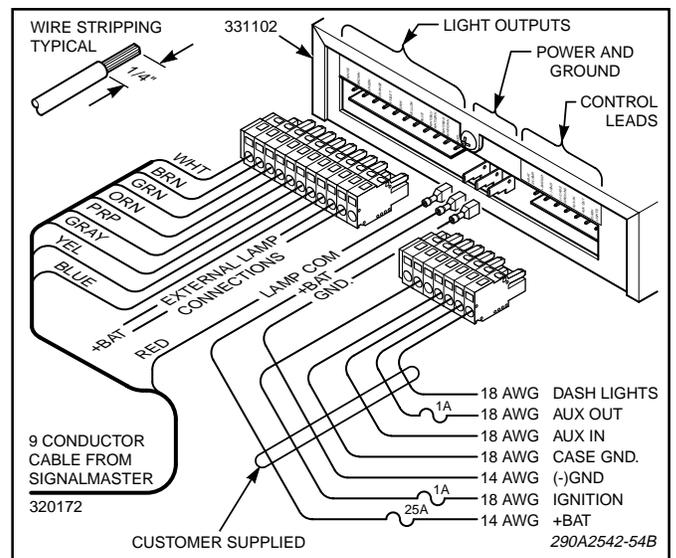

Figure 2.
The control unit is supplied with a seven-position connector, an eleven-position connector, and insulated spade connectors (0.250" (1) and 0.187" (2)) to perform the electrical installation. User-supplied, 14-gauge red and black wires are required for the (+) BAT and (-) GND connections. User-supplied, 18-gauge red and green wires are required for the (+) IGNITION and (-) CASE GROUND connections on the seven-position connector. In addition, user-supplied 18-gauge wire is used for the AUX IN, AUX OUT, and DASH LIGHTS connections. Using figure 2 as a guide, complete this portion of the installation as follows:
To avoid damage and ensure proper operation, the red and black wires MUST be installed as shown in figure 2.
- a. Strip 1/4" of insulation off of each 14AWG red and black wire. See figure 2. Crimp a 0.187" wide spade receptacle on the red wire. Crimp the 0.250" wide spade receptacle on the black wire.
- b. Connect the red and black 14-gauge terminated wires to the +BAT and GND positions as shown in figure 2.
- d. Connect the 18-gauge red (IGNITION) and green (CASE GROUND) wires to the connector as shown in figures 2 and 3.
The AUX OUT connection will provide a ground to activate a ground-activated relay (user-supplied) when the AUX switch is operated. To perform the wiring for these connections, proceed as follows (see figures 2 and 3):
See figures 2 and 3. Connect a user-supplied 18-gauge wire to the seven-position connector's DASH LIGHTS connection. Route the wire to the vehicle instrument light circuit (if backlight dimming is required) or the accessory terminal of the ignition switch and terminate as required.
d. Connect the remaining SignalMaster wires to the eleven-position connector as shown in figures 2 and 3.
e. If applicable, connect the external lamp ground cables to the connector (positions 9 and 10) as shown in figures 2 and 3. Each of these two positions provides an alternating ground signal to activate external lamps.